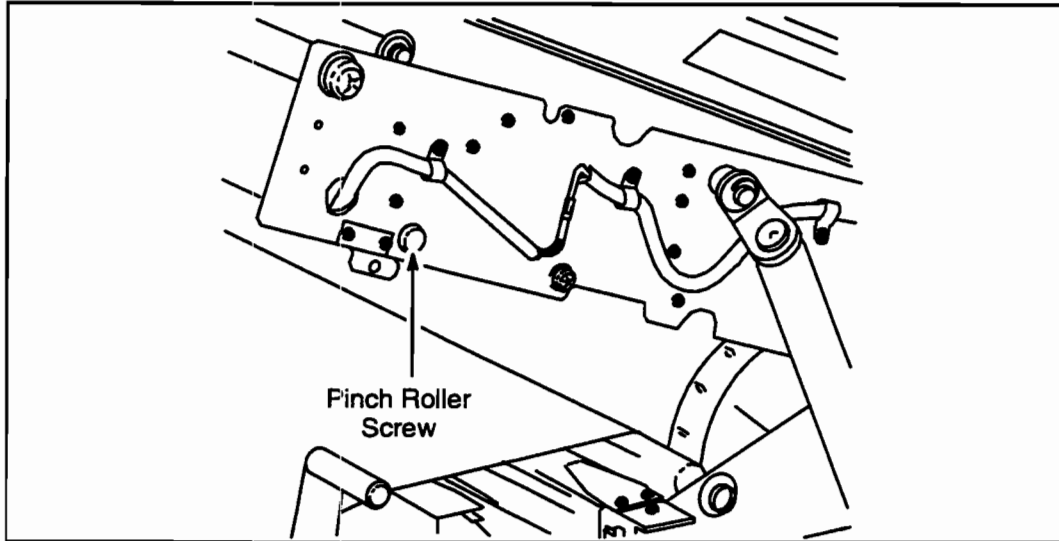

Figure 3-5. Restraining Screw (Right Side)
9. Push up on one end of the pinch roller and remove the plastic-capped restraining screw located behind the pinch roller and just beneath the roller tension bar. See Figure 3-5.